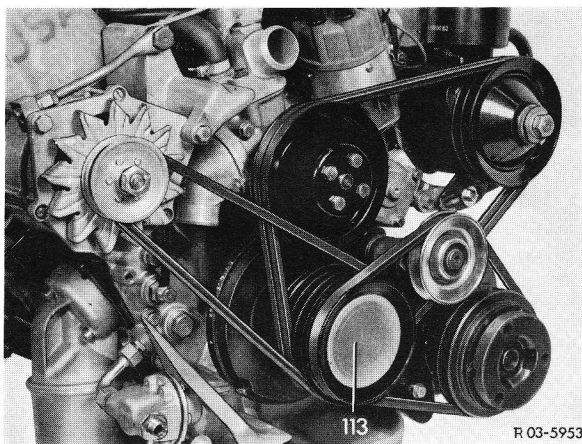
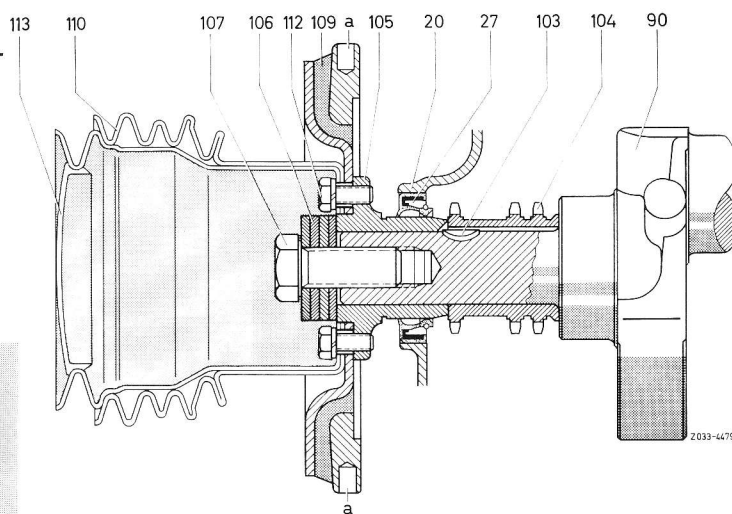
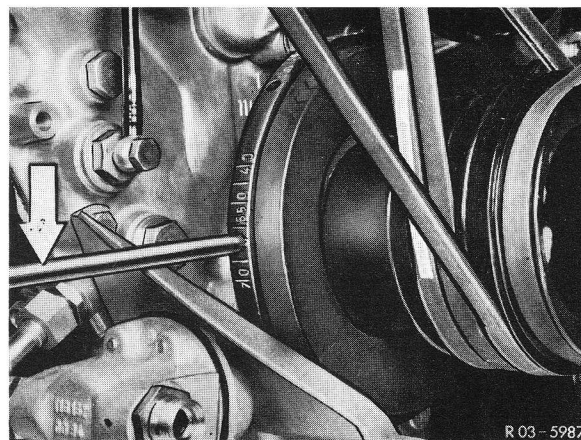

Fig. 1
Fig. 2
Fig. 3
- 4 Push out cover (113) with screw driver (Fig. 1).
- 5 Unscrew hex. bolt (107) (Fig. 2). Place a self-made 8 mm steel bolt into bores in circumference of vibration damper for counterholding (Fig. 3).
6 Mark hub and crankshaft in relation to each other with paint or chalk. Then pull off vibration damper (109) with pulley (110) and hub (105) manually (Fig. 2).
7 On vehicles with air-conditioning system (Fig. 1) be sure to loosen the pulley and the vibration damper first from hub and remove. For this purpose, loosen the six hex. bolts (112) and remove pulley (110) with vibration damper (109) from hub (105) (Fig. 2).
Caution! One of the six fastening holes in the hub (105) is **eccentric** to bolt hole circle. As a result, the vibration damper and the pulley can be mounted in one position only (Fig. 2).
11 Slide vibration damper — hub — pulley assembly manually on crankpin and **check** by light, rotary movements **whether the hub is seated on the plate spring** (103) (Fig. 2).